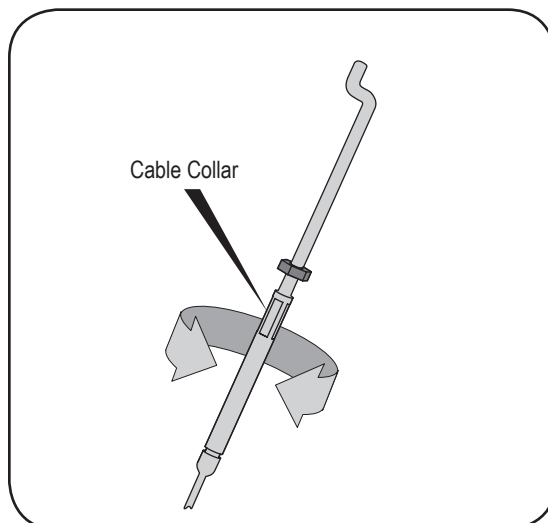

Figure 5-9: Reverse drive belt removal.
3. Turn the cable collar section one or two turns to add or lesson tension on the cable. See Figure 5-9.